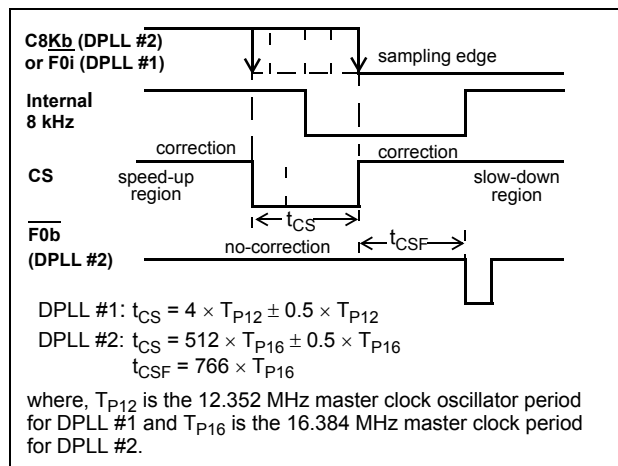

Figure 4 - Phase Comparison
As shown in Figure 4, the falling edge of the 8 kHz input signal (C8Kb for DPLL #2 or $\overline{F0i}$ for DPLL # 1) is used to sample the internally generated 8 kHz clock and the correction signal (CS) once in every frame (125 μ s). If the sampled CS is "1", then the DPLL makes a speed-up or slow-down correction depending upon the sampled value of the internal 8 kHz signal. A sampled "0" or "1" causes the frequency correction circuit to respectively stretch or shrink the master clock by half a period at one instant in the frame. If the sampled CS is "0", then the DPLL makes no correction on the master clock input. Note that since the internal 8 kHz signal and the CS signal are derived from the master clock, a correction will cause both clocks to stretch or shrink simultaneously by an amount equal to half the period of the master clock.
The no-correction window size is 324 ns for DPLL #1 and 32 μ s for DPLL #2. It is possible for the relative phase of the reference signal to swing inside the no-correction window depending on its jitter and the relative drift of the master clock. As a result, the phase relationship between the input signal and the output clocks (and frame pulse in case of DPLL #2) may vary up to a maximum of window size. This situation is illustrated in Figure 4. The maximum phase variation for DPLL #1 is 324 ns and for DPLL #2 it is 32 μ s. However, this phase difference can be absorbed by the input jitter buffer of Zarlink's T1/CEPT devices.